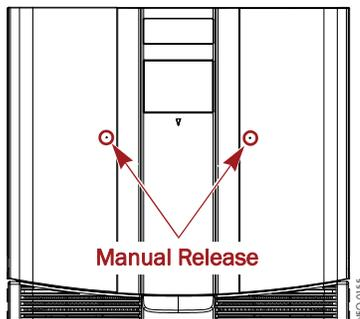

Figure 1. Manual Door Release Locations
**IMPORTANT:** If the library is non-operational, the doors can be manually opened by pushing a stiff wire through the manual release holes (Figure 1).